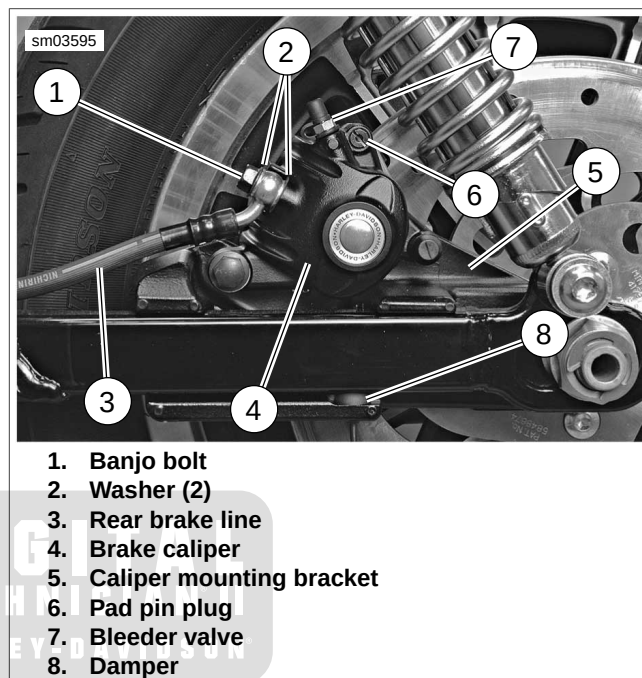

Figure 2-120. Rear Caliper Assembly
- See Figure 2-120. Remove the banjo bolt (1) and both washers (2) to detach rear brake line (3) from brake caliper (4). Discard washers.
- Remove pad pin plug (6).
- See Figure 2-120. Remove rear brake caliper (4) and caliper mounting bracket (5) as an assembly.